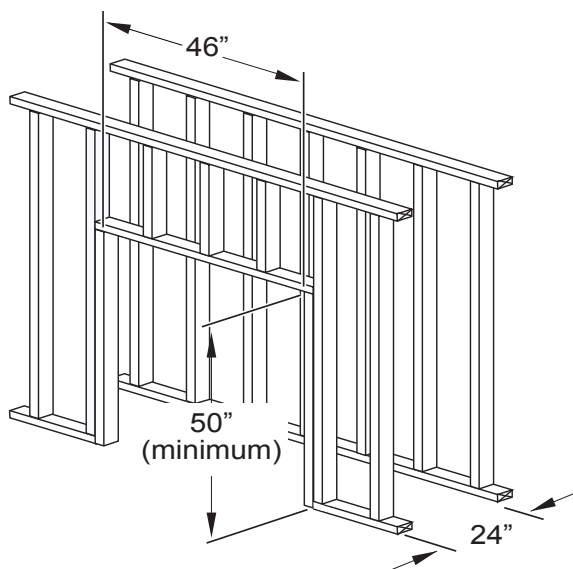

Figure 2. Fireplace installation (combustible frame dimensions)
**Step 1.** To frame in the unit first frame a rough-in enclosure with combustible framing materials, using typical framing practices. The rough-in frame opening for the assembled fireplace is 46" wide, x 50" high x 24" deep. See Figure 2.